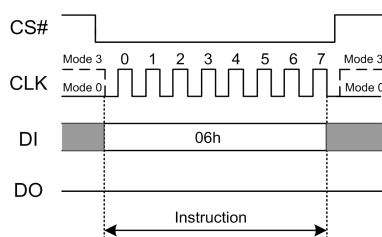

Figure 9.2 Write Enable Instruction
The Write Enable instruction (Figure 9.2) sets the Write Enable Latch (WEL) bit in the Status Register to a 1. The WEL bit must be set prior to every Page Program, Sector Erase, Block Erase, Chip Erase and Write Status Register instruction. The Write Enable instruction is entered by driving CS# low, shifting the instruction code “06h” into the Data Input (DI) pin on the rising edge of CLK, and then driving CS# high.